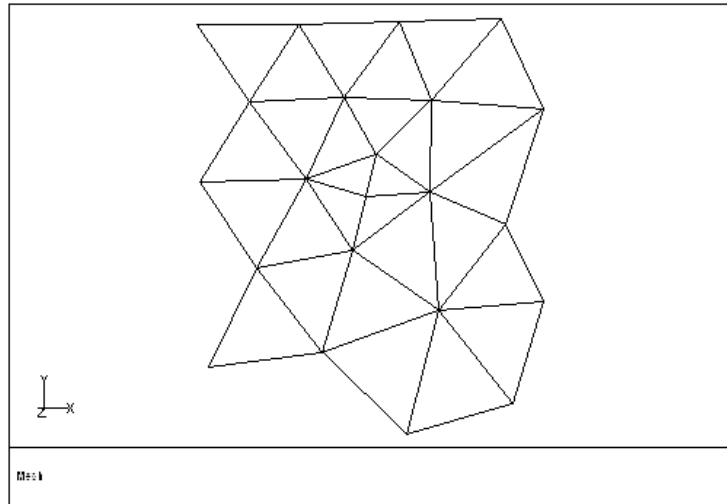

Figure 1.22: Surface Mesh After Node Smoothing
- (d) Perform node smoothing by selecting several nodes around the split edge and clicking **Smooth** (Figure 1.22).